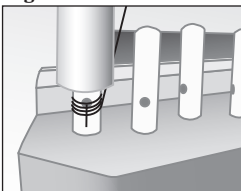

Figure 5
8. As you turn, be sure the string wraps OVER the bent end. This will prevent the string from slipping out of the eyelet. (Fig. 5)